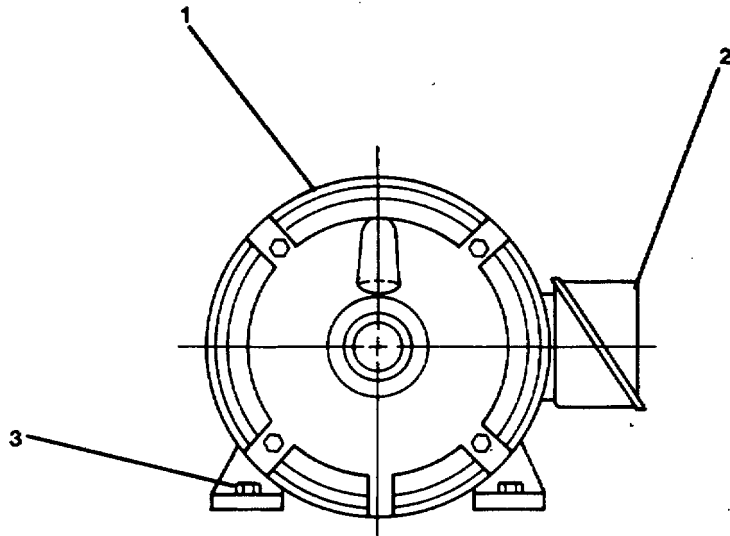

Figure 4-12. Electric Motor.
**4-15. Repair Motor, Electric. (FIGURE 4-12)**